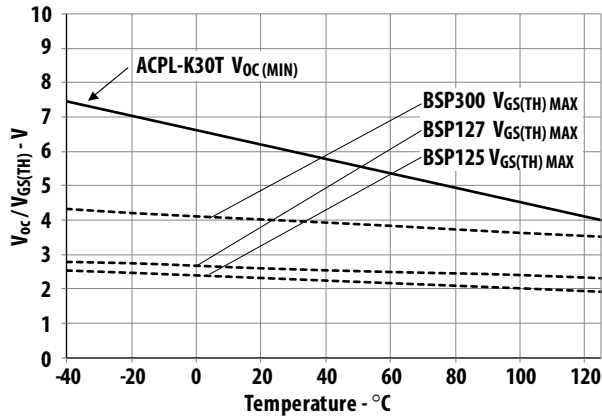

Figure 15. VOC minimum vs. MOSFET VGS(TH) maximum
ACPL-K30T has typical VOC of 7 V and minimum VOC of 4 V at 125 °C. This is sufficient to drive most logic gate level MOSFETs, with threshold voltages VGS(TH) of 4 V or less. The VOC has a typical temperature coefficient of -21 mV/°C. To serve as a guide in the design at different temperatures, Figure 15 shows the ACPL-K30T's minimum VOC vs. the MOSFET's maximum VGS(TH).